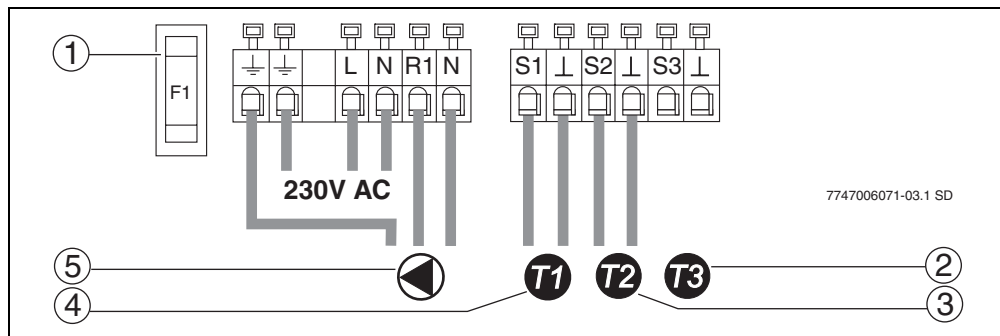

Fig. 6 Terminal diagram
- Connect the cables in accordance with the terminal diagram (→ Fig. 6).